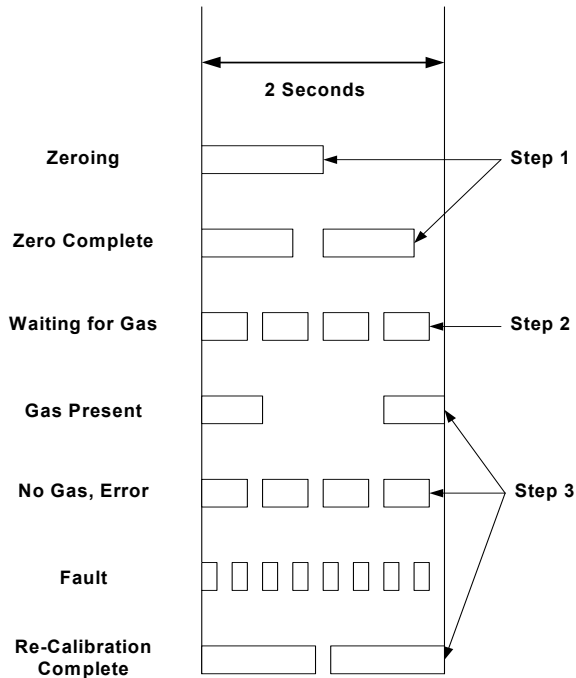

Figure 8: IR400 Zero Switch / LED During Zeroing and Calibration
- When the unit has finished zeroing, the LED will turn on and flash off quickly once per second for 30 seconds (*Zero Complete* in Figure 8).